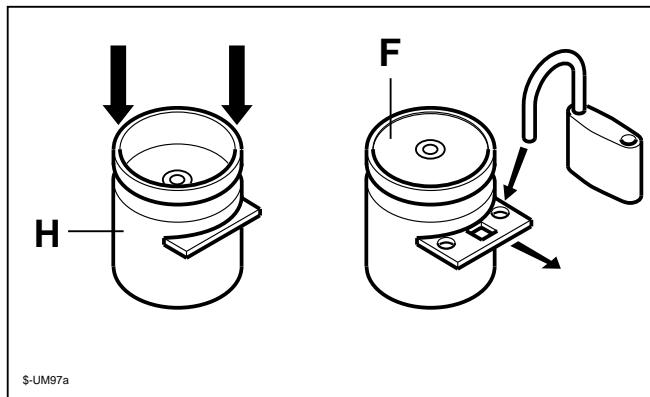

Fig. 2.18
- Press the pushbutton F (fig.2.18) down fully to switch on the compressed air supply to the machine.